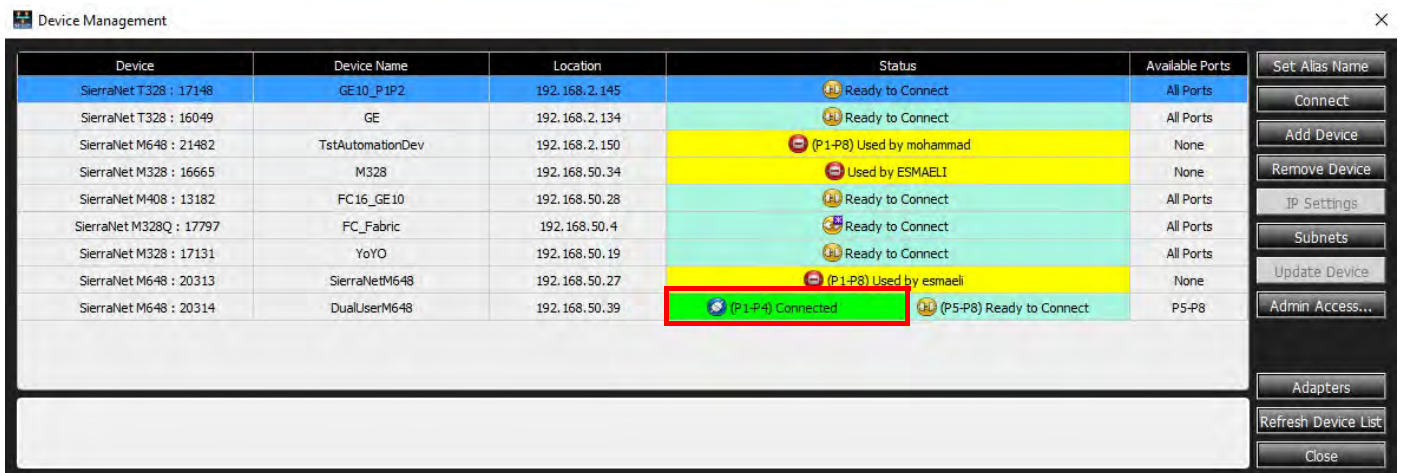

Figure 2.13: P1-P4 Connected
2. Choose the SFP (P1-P4) option above to connect to ports P1-P4 (Figure 2.13).